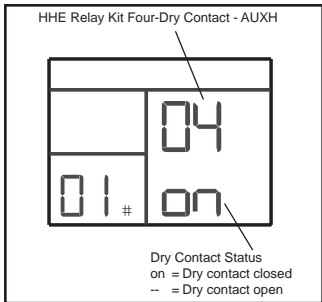

Figure 14. On/Off Status of HHE Relay Kit - AUXH
- On/Off status of dry contact four (AUXH) (Figure 14)